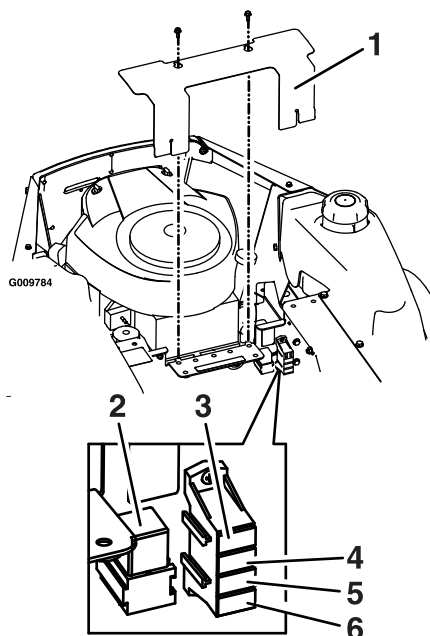

Figure 31
- Raise the seat to gain access to the fuse holder (Figure 31).
- Remove cover as shown in Figure 31.